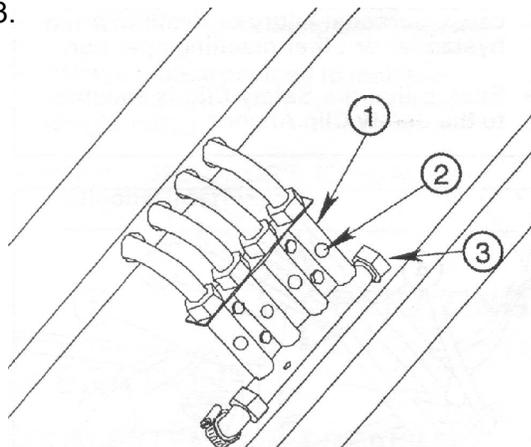

FIG 3.
2. When there is flow, all the floating balls should be at the same level. If a ball is lower than the others, this indicates a clogged nozzle. See FIG. 3.